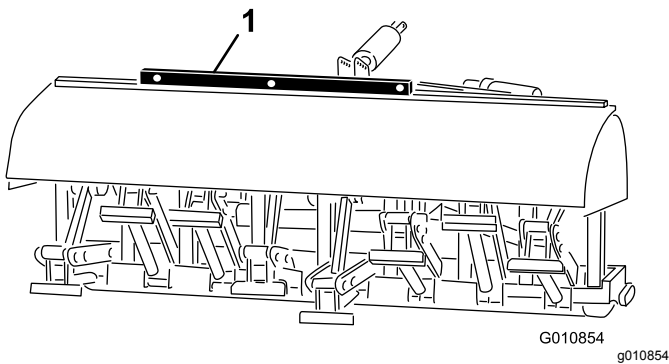

Figure 29
2. Place a level on top of the aerator frame to check for level side-to-side (**Figure 29**).